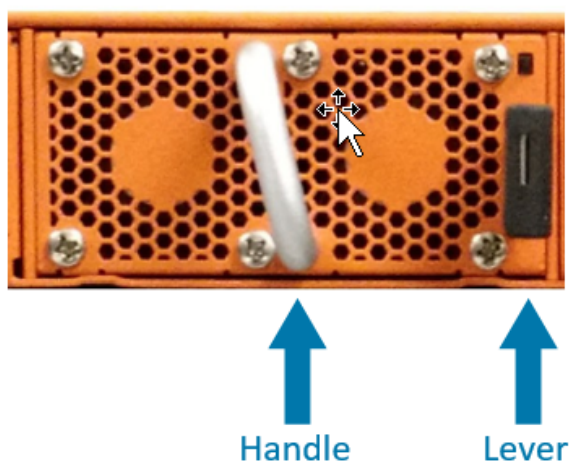

Figure 8 Replacing a Fan (GigaVUE TA Series-TA400 Shown)
1. Locate lever and handle as shown in Figure 8 Replacing a Fan \(GigaVUE TA Series-TA400 Shown\).